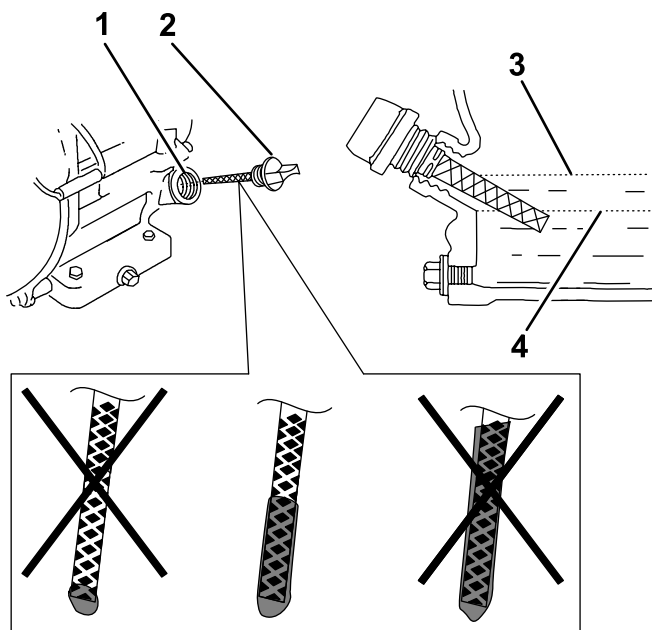

Figure 9
3. Clean around the dipstick (Figure 9) so that dirt cannot fall into the fill port and damage the engine.
4. Unscrew the dipstick and wipe the end clean (Figure 9).
5. Slide the dipstick fully into the fill port (Figure 9) without threading it into the port.
6. Remove the dipstick and look at the end. If the engine oil level is low, slowly pour only enough oil into the fill port to raise the level to the Full mark on the dipstick (Figure 9).